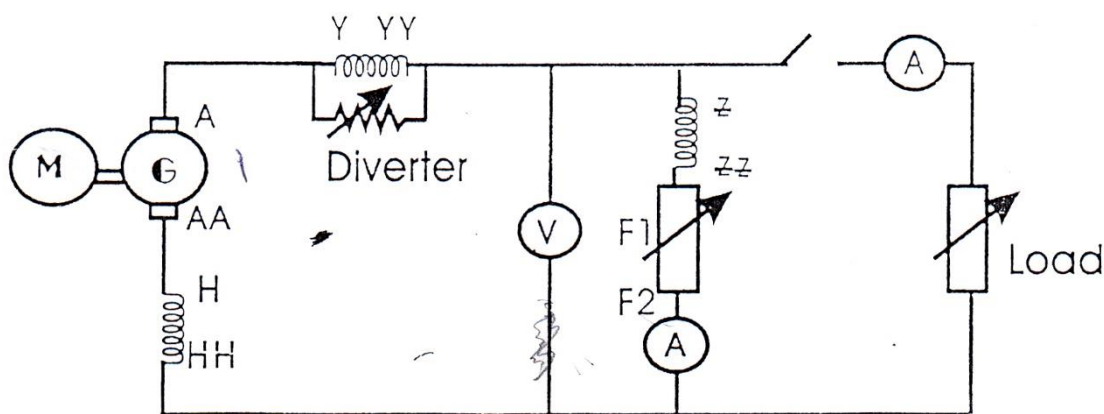

Fig. 3
The compound generator is a combination of shunt and series winding as in (fig3). These winding being usually connected so that their ampere - turns assist one another.
1. Connect the compound generator (fig3) as cumulative compounded provide. Instruments to read the generator terminal voltage field current and load current.